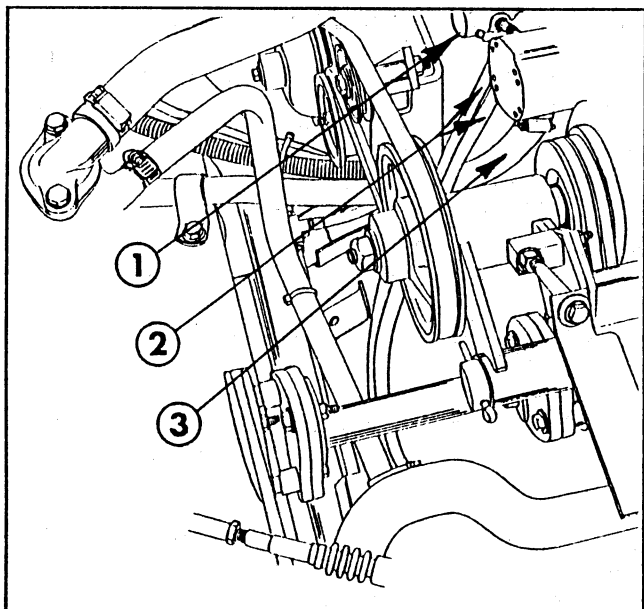

FIG. 2
9. At the hydraulic control valve, loosen and disconnect the fittings for the right hand dump cylinder hoses. Reroute these hoses to the underside of the pump suction hose. Reconnect and tighten fittings, then secure with tie straps. Secure all other hoses and cables with tie straps to ensure they do not rub against pump pulleys and belts (FIG. 2).